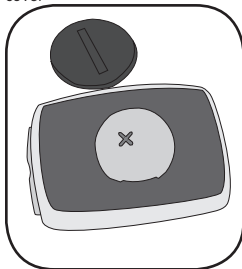

Figure 19- The 'cross' on the battery points up
6. Insert the new battery with the 'cross' and identifying label pointing up (Figure 19).